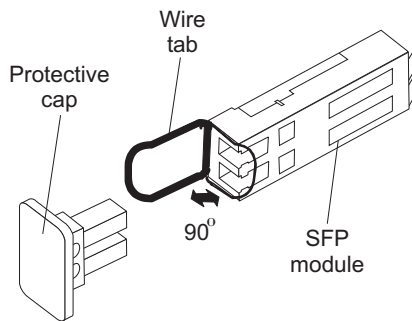

Figure 24. Installing an SFP module into the host port
4. Insert the SFP module into the host port until it clicks into place. See Figure 24 on page 46.